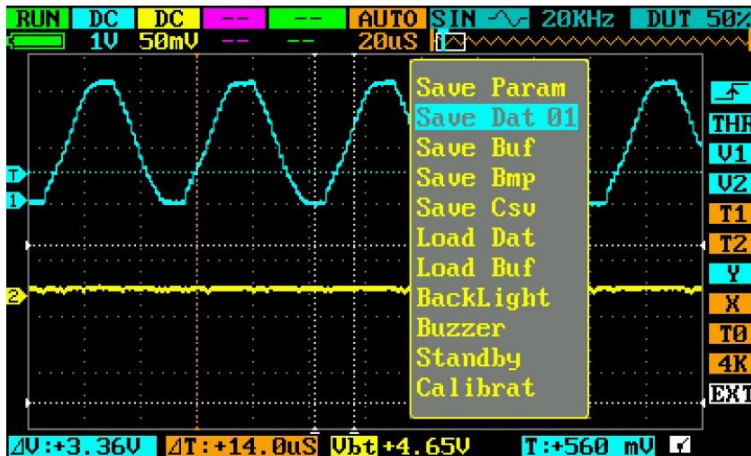

Figure 4.1
1. Input a standard signal to CH\_A. Press **■**, and choose Save Dat 01 to save waveform, as shown in Figure 4.1: